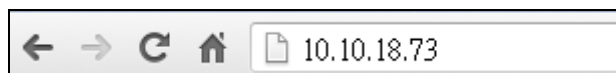

Figure 3-19: IEI iMAN Web Address
- Step 2:** On the remote management console, open a web browser. Enter the managed system IP address in the web browser (**Figure 3-19**).